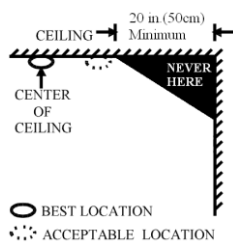

Figure 4: RECOMMENDED BEST AND ACCEPTABLE LOCATIONS TO MOUNT SMOKE DETECTORS
- Install smoke detectors as close to the center of the ceiling as possible. If this is not practical, put the detector on the ceiling, no closer than 20 inches (50 cm) from any wall or corner, as shown in **Figure 4**.
- Dead air spaces are often at the top of a peaked roof, or in the corners between ceilings and walls. Dead air may prevent smoke from reaching a detector. See Figures 4 and 5 for recommended mounting locations.